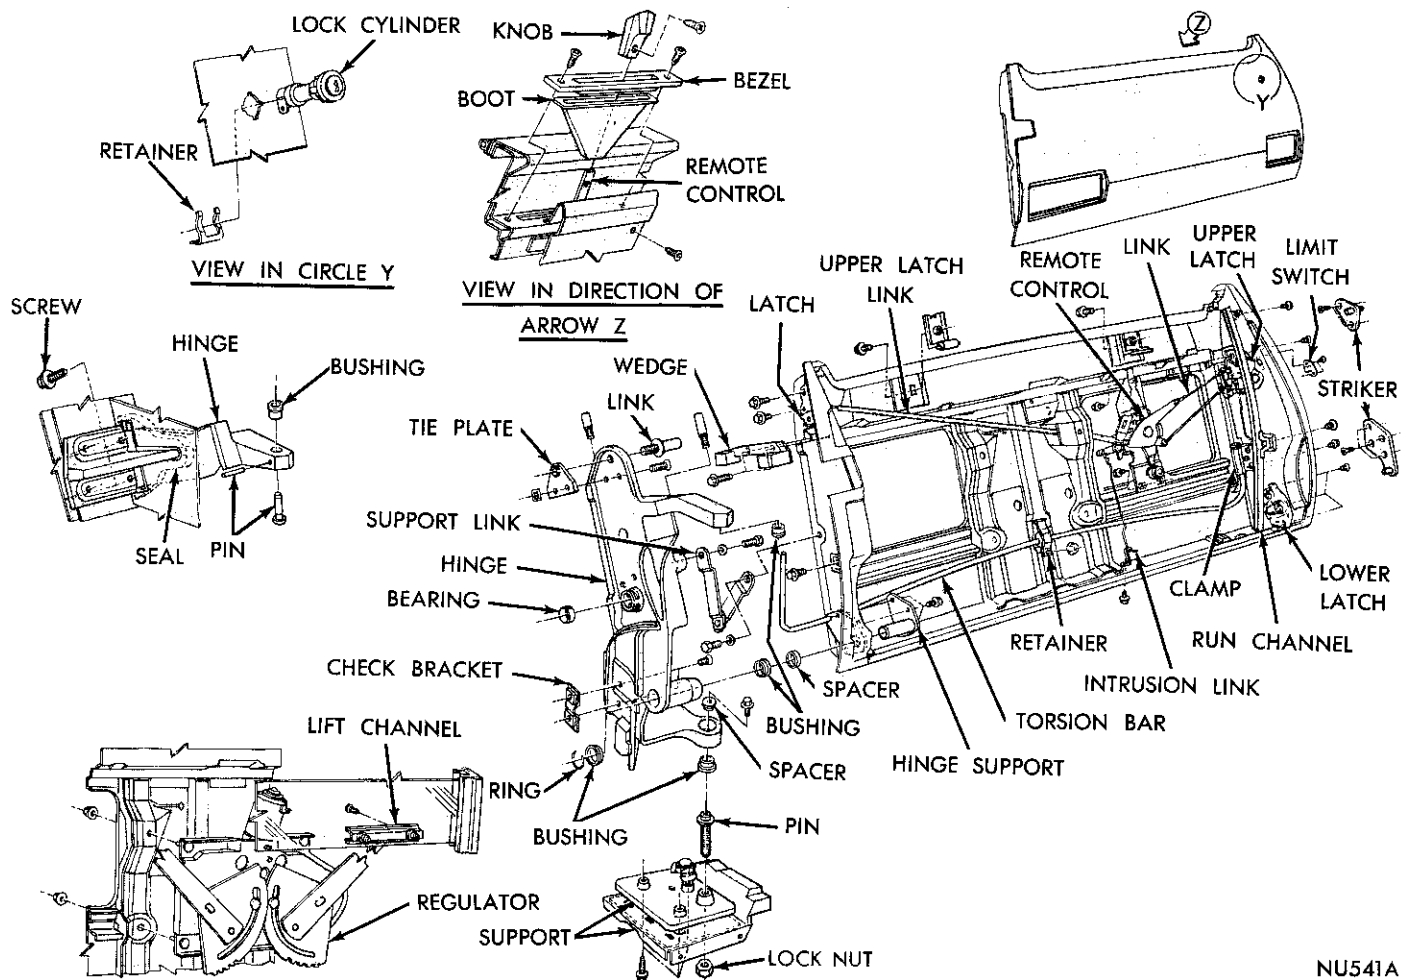

Fig. 88—Tail Gate Assembly
ALIGNMENT (Fig. 88)
- (1) Remove check arm and torsion bar guide from pillar guide plates.
- (2) Support tail gate on jacks or stands.
- (3) Loosen hinge pivot pin locking screws (Fig. 88).
- (4) Use a pencil and outline hinge plate position on pillar post for future assembly.
- (5) Remove hinge plate attaching bolts from pillar post.
- (6) Slide hinge plate and torsion bar in through guide toward center of tail gate.
- (7) Lower tail gate down and out of body opening.
To replace the lock assembly (Fig. 88) remove trim
- (1) Remove trim panel from tail gate.
- (2) Remove screws attaching torsion bar clamp to tail gate pillar (Fig. 88) and remove clamp.
- (3) Remove torsion bar bearing retainer and bearing.
- (4) Remove screws attaching torsion bar and hinge to tail gate.
- (5) Remove torsion bar from hinge.
- (1) Lubricate torsion bar at right hinge area and at torsion bar bearing area.
- (2) Install hinge on torsion bar and insert torsion bar into tail gate.
- (3) Position hinge to tail gate and install mounting screws. Tighten screws.
- (4) Install bearing and bearing retainer on torsion bar (Fig. 88). Tighten retainer nut.